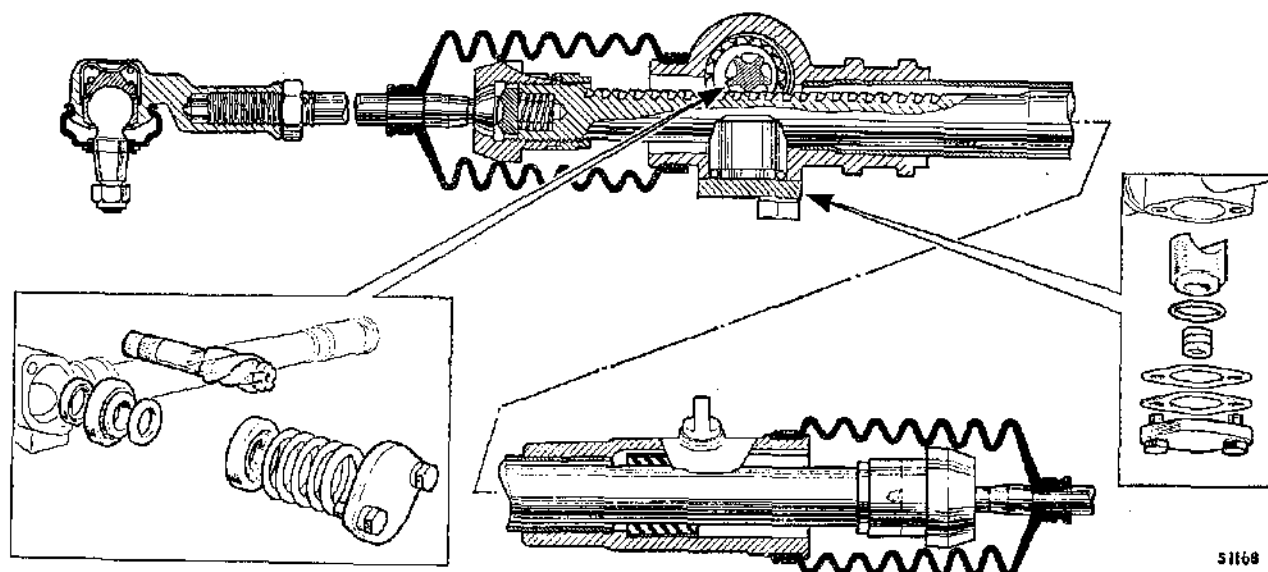

Fig. J.3
- (26) Reverse the dismantling sequence but note: If fitting a new felt bush (early models), soak the bush in E.P. S.A.E. 140 oil.
- (27) The plastic bush may be used as a replacement for the felt bush and is used together with a steel sleeved bush and spacer. Insert the spacer (plain end first) into the rack housing. Fit the plastic bush into the steel sleeve and insert it into the rack housing (plain end first), with the flats on the plastic bush positioned offset to the retaining screw hole in the rack housing. Ensure that the spacer and bush are correctly positioned and drill through the retaining screw hole and the bush with a $\frac{1}{8}$ in. ($\cdot 27$ mm.) drill. Remove all swarf; coat the retaining screw with a jointing compound and refit to secure the bush. Check that the screw does not project into the bore of the plastic bush.
- (28) *Pinion adjustment (early models)*. Refit the cover without the shims, but do not over-tighten the screws. Measure the gap between the cover and the housing. Remove the cover and add shims to the thickness of the measurement minus $\cdot 002$ in. ($\cdot 05$ mm.). Refit the cover with jointing compound.
- (29) *Pinion adjustment (Mk. II models)*. Refit the pinion and bearings as shown in Fig. J.3. Add sufficient shims together with the spacer washer to provide a clearance of approximately $\cdot 010$ in. ($\cdot 25$ mm.) between the rack housing and the cover plate. Fit and lightly tighten the cover plate. Take a feeler gauge measurement of the clearance (A) and reduce the shimming by the measurement taken,